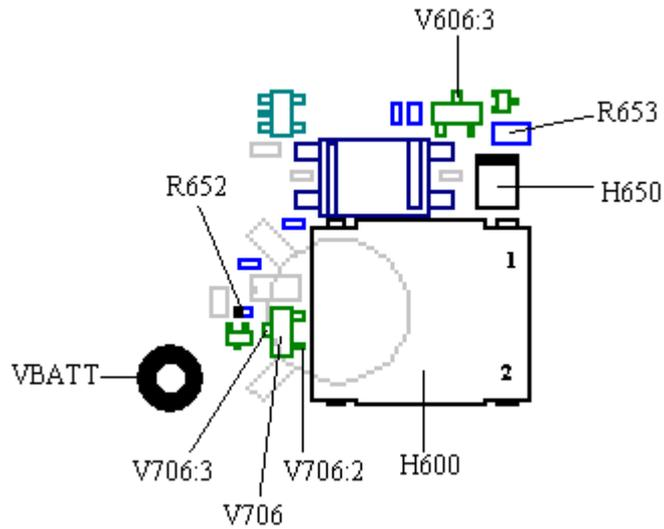
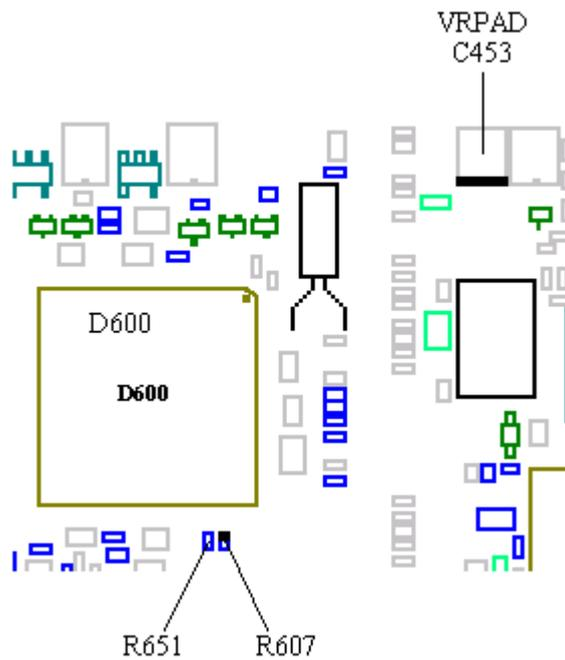

Fig. 9.2
Fig. 9.3
Measure the voltage at H600 pad 1 (~3.3V, fig. 9.2).
- If the voltage is missing at H600 pad 1, measure VRPAD (~3.8V) at V706 pad 2 (class A, fig. 9.2).
- * If the voltage at V706 pad 2 is missing, check if VRPAD is at C453 (fig. 9.3).
* If VRPAD at V706 pad 2 is correct, measure the resistance from VBATT to V706 pad 3 (~4.7 ohms, fig. 9.2)
* If the resistance is too high, replace R652 (class A, fig. 9.2).
Measure the resistance from H600 pad 2 to V606 pad 3 (10 ohms, fig. 9.2).
- If the resistance is too high replace R653 (class A, fig. 9.2).
- If the resistance is correct, check the soldering at D600 pad 91 (fig. 9.3).
- * If the soldering is correct, replace R651 (class A, fig. 9.3) and V606 (class A, fig. 9.2).
- * If that doesn't help, replace D600 (class B, fig. 9.3).
- If none of the LEDs H651-H654/H655-H660 (fig. 9.1 and 9.6) are lit, measure the voltage at the marked of R607 (~3.1V, fig. 9.3). Before you measure you have to press a key on the phone to make the processor set the LED3K signal high for about 10 seconds.
- * If the voltage is missing, check the soldering at D600 pin 92 (fig. 9.3).
- If none of the LEDs H651-H654/H655-H660 (fig. 9.1 and 9.6) are lit, measure the voltage at the marked side of R607 (~3.1V, fig. 9.3). Before you measure you have to press a key on the phone to make the processor set the LED3K signal high for about 10 seconds.
- * If the VRPAD voltage at V706 pad 2 is correct, measure the resistance from VBATT to V706 pad 3 (~4.7 ohms, fig. 9.2).
- * If the resistance is too high, replace R652 (class A, fig. 9.2).
* If VRPAD at V706 pad 2 is correct, measure the resistance from VBATT to V706 pad 3 (~4.7 ohms, fig. 9.2).
Measure VRPAD (~3.8V) at v706 pin 2 (class A, fig. 9.2).
- If the voltage at V706 pin 2 is missing, check if there is voltage at C453 (~3.8V, fig. 9.3).